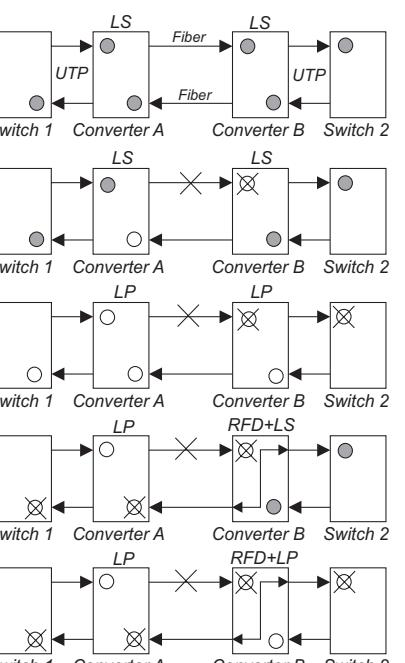

Figure 2: Link Modes
In order to accommodate different user needs, the Triple Speed supports four different link modes (see Fig. 2).
In Link Segment (LS), a port transmits a Link signal independently of any received Link at any other port. For example, the UTP transmits a Link regardless of the fiber receiving a Link [Fig. 2(a) & (b)].
In Link Propagate (LP), a port transmits a Link signal only when receiving a Link at its other port. For example, the UTP transmits a Link only when receiving a Link at the fiber port [Fig. 2(c)].
In Remote Fault Detection + Link Segment (RFD+LS), the fiber port transmits a Link signal only when receiving a Link at the fiber port. As a result, fiber faults (no Link received at the fiber) are looped-back and can be reported to the network core [Fig. 2(d)].
In Remote Fault Detection + Link Propagate (RFD+LP), the UTP port transmits a Link signal only when receiving a Link at the fiber port. The fiber port transmits a Link signal only when receiving Link signals at both the fiber port and the UTP port. As a result, fiber faults (no Link received at the fiber) are propagated forward and looped back for fault reporting at both the network core and the customer location [Fig. 2(e)].